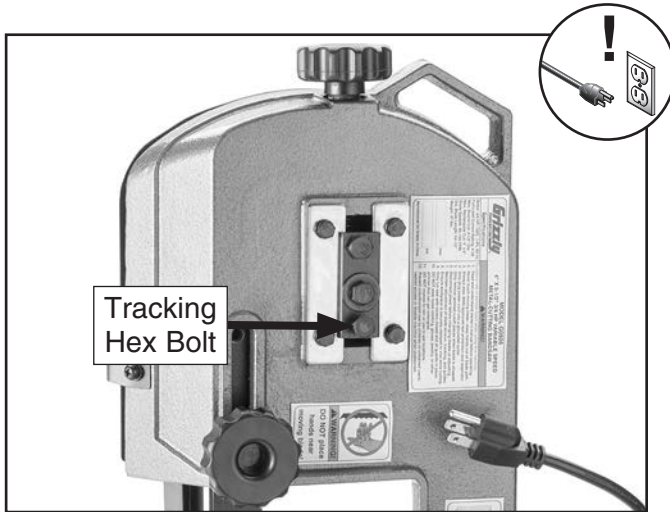

Figure 53. Location of tracking hex bolt.
9. Adjust tracking hex bolt shown in **Figure 53**, then tighten lower hex bolt loosened in **Step 7**.